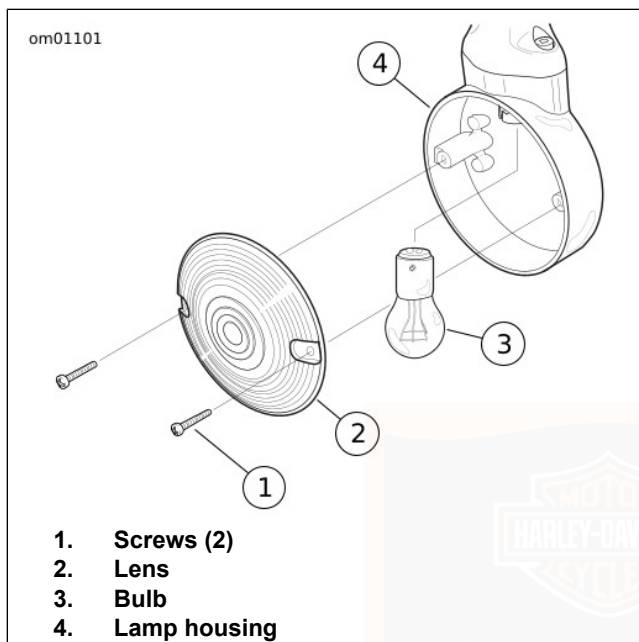

Figure 67. Turn Signal Lamp Assembly: Flat Lens Style
1. See Figure 67. Remove two screws to release lens from lamp housing.